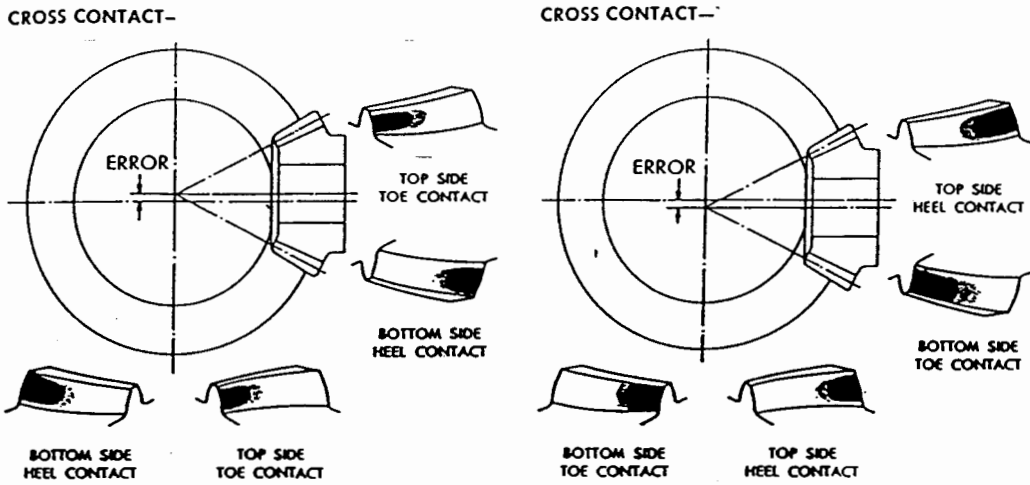

Figure 9
10.6 When a tooth contact occurs as shown in Figure 9 or 10, refer to the following instructions.